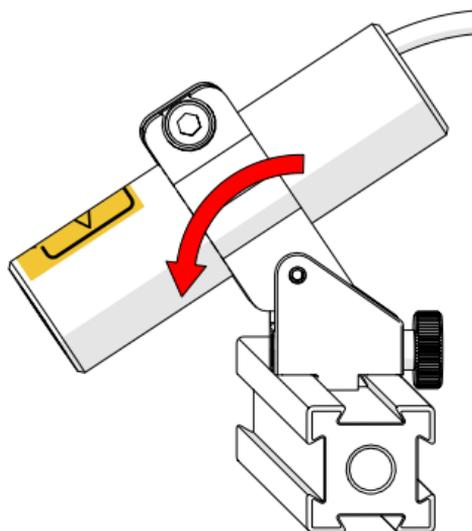

Fig. 19 - Mount on frame bar
1. Adjust the optical guide's friction pivot to direct the laser beam as required (*Fig. 19*).